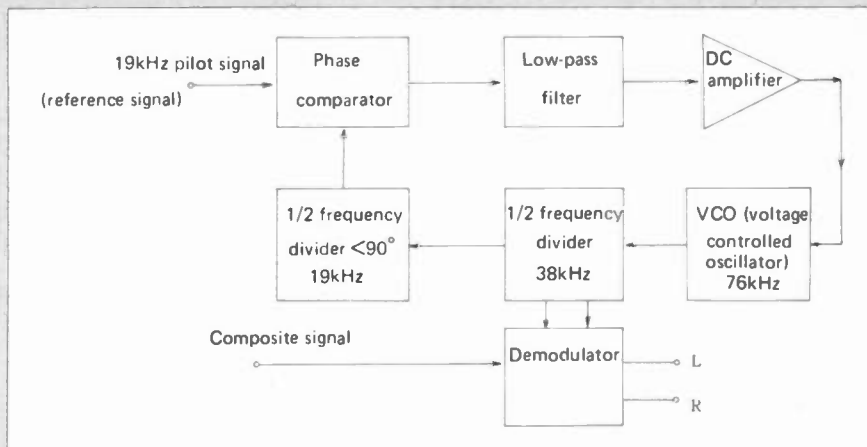

Fig. 8 A block diagram of the phase locked loop circuit used in the T-2. The circuit is completely contained in one single IC chip.
This stage basically decodes the processed IF signal from the detector to obtain the (L) (R) stereo signal (see Fig. 8).